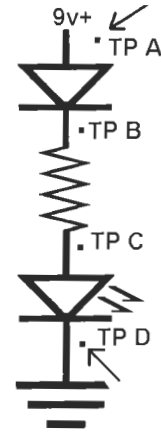
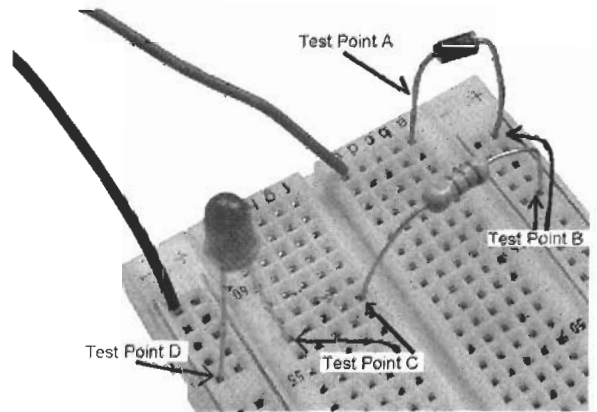

Figure L3-12
Figure L3-13
3. Place the red (+) probe at test point A (TP-A) and the black (-) probe at TP-D (ground). The arrows in the schematic shown in Figure L3-12 indicate where to attach the probes. Corresponding test points have been noted in Figure L3-13 as well.